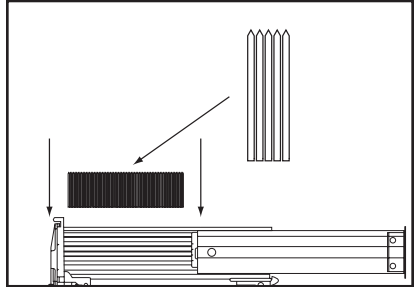

Figure 2. Loading staples into stapler.
4. Point the stapler up and insert a stick of staples into the magazine as shown in **Figure 2**. Make sure that the pointed ends of the staples point in the same direction as the stapler nose piece.